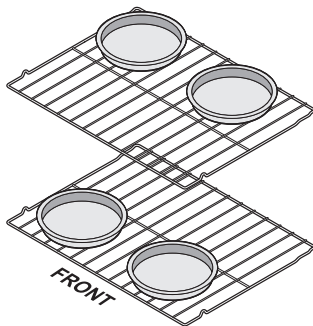

Figure 28: Pan placement using multiple racks in conv bake
- Arrange bakeware as shown in Figure 28 when using the convection feature.